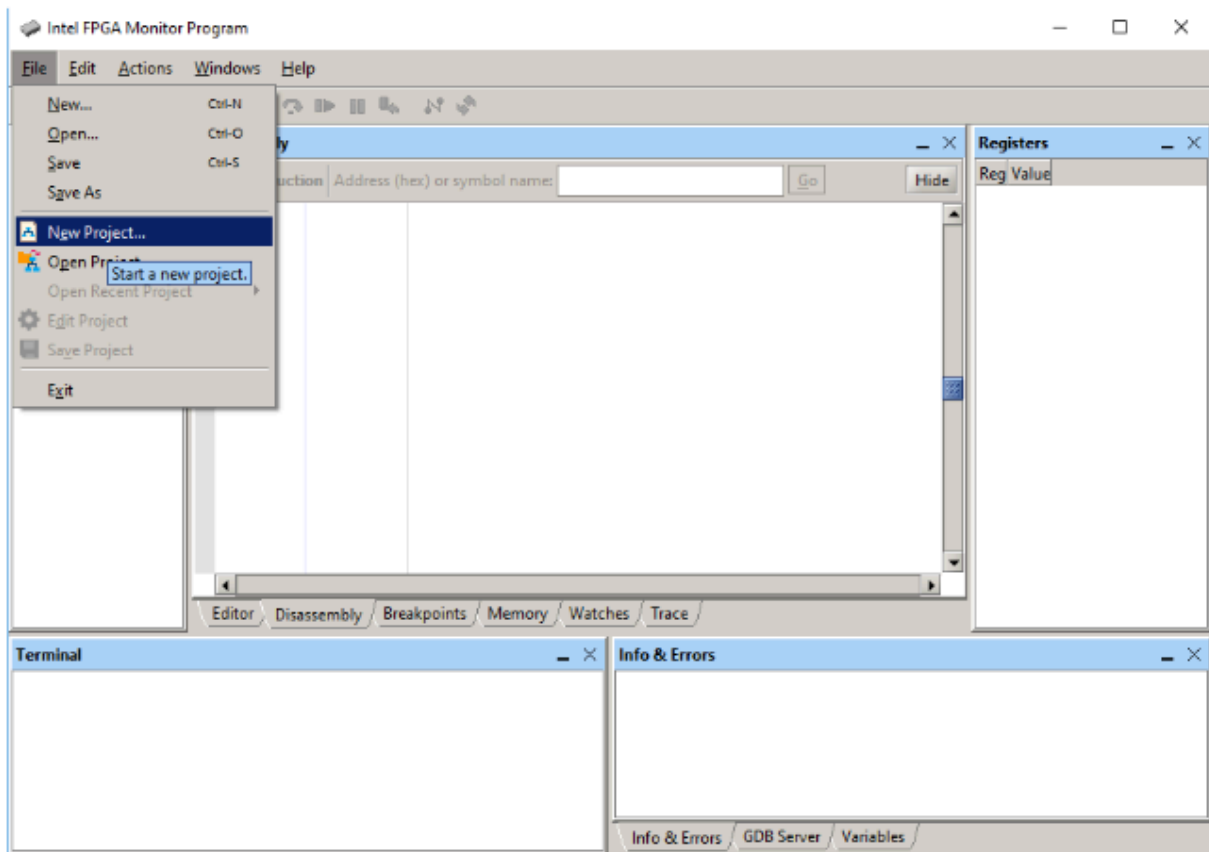

Figure 12: Running the demo program - Step 1
1. Open the “Intel FPGA Monitor Program 16.1” from the desktop icon (if asked to enable a C debugging beta feature, click “Yes”), and select File -> New Project, Fig. 12.